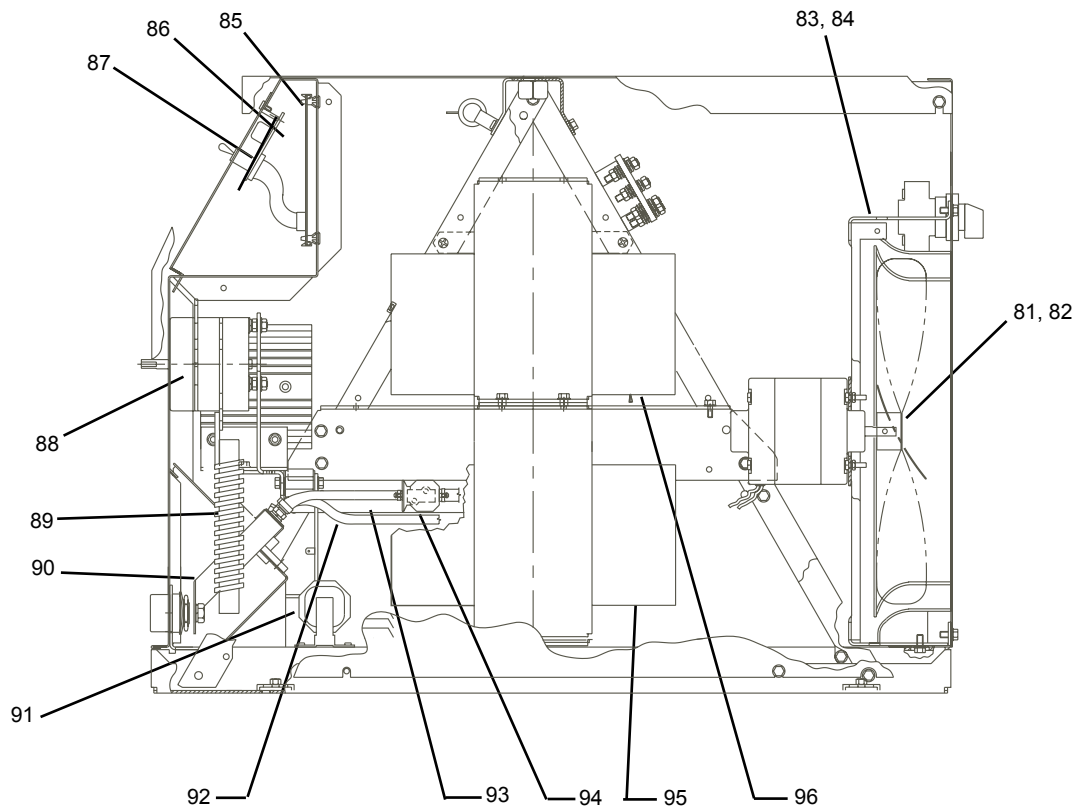

Fig. 6-4, Heliarc 252/352, Right Side View
3. Air Core Transformer 36415 replaced 680024 (No. 89 in Fig. 6-4).